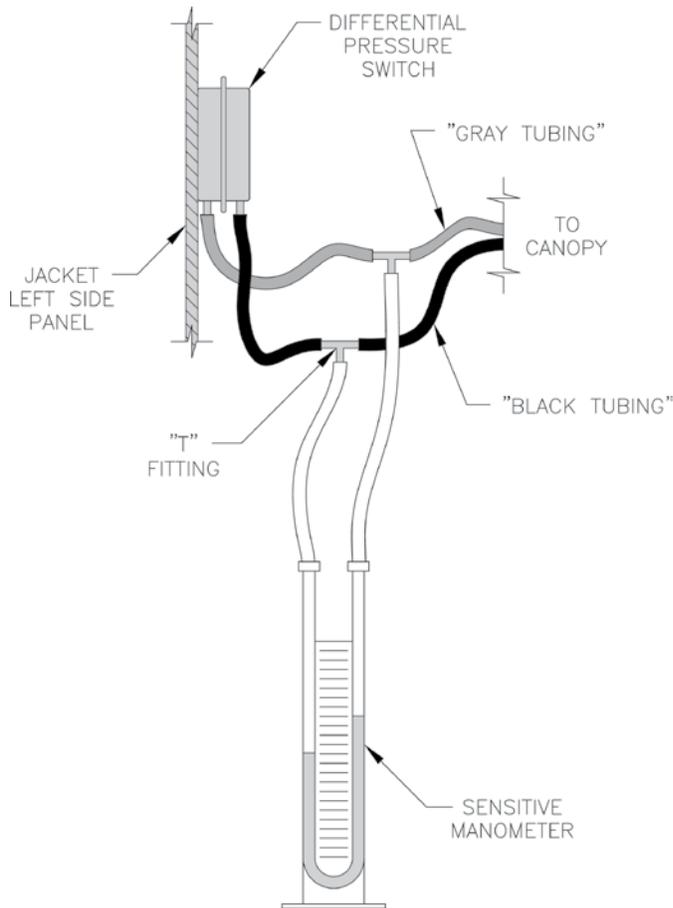

Figure 30: Differential Pressure Measurement
G. Procedure for measuring differential pressure (See Figure 30).